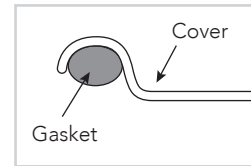

Figure 1
- CHECK GASKET:** Ensure gasket is properly fitted in the cover groove (see figure 1).